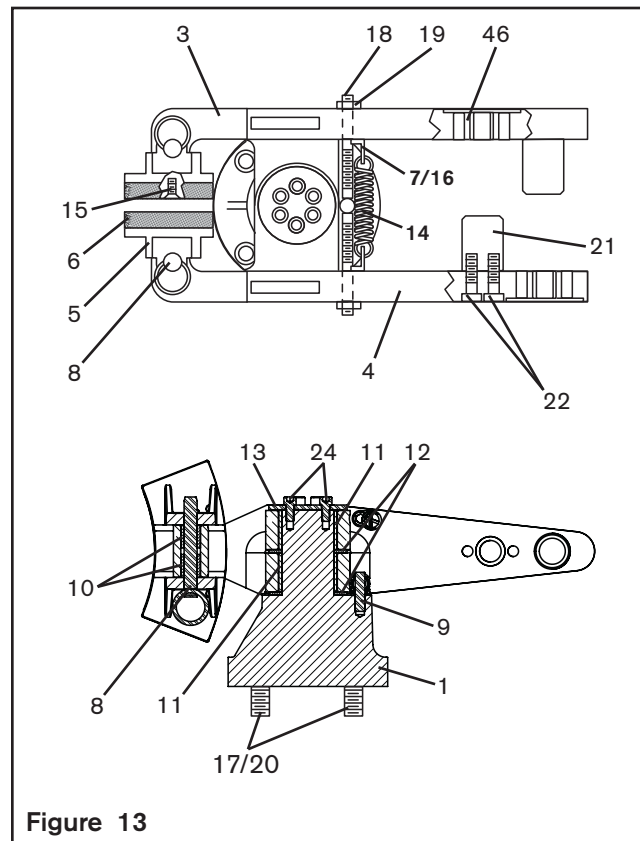

Figure 13
18. Reinstall the Spring (Item 14) (See Figure 13).